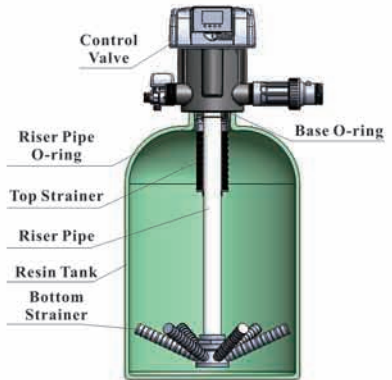

Figure 1-1
- ① The filter or softener should be located close to drain.
- ② Ensure the unit is installed in enough space for operating and maintenance.
- ③ Brine tank needs to be close to softener.
- ④ The unit should be kept away from the heater, and not be exposed to outdoor. Sunshine or rain will cause the system damage.
- ⑤ Please avoid installing the system in circumstance of acid/alkaline, magnetic or strong vibration circumstance, because above factors will cause the system disorder.
- ⑥ Do not install the filter or softener, drain pipeline or overflow pipe in circumstance which temperature may drop below 5°C, or above 45°C.
- ⑦ Install the system in the place where with the minimum loss in case of water leakage.
① Install control valve
a. As the Figure 1-1 shows, select the riser pipe with 50mm OD, glue the riser pipe to the bottom strainer and put it into the mineral tank, cut off the exceeding pipe out of tank top opening and make external rounding.